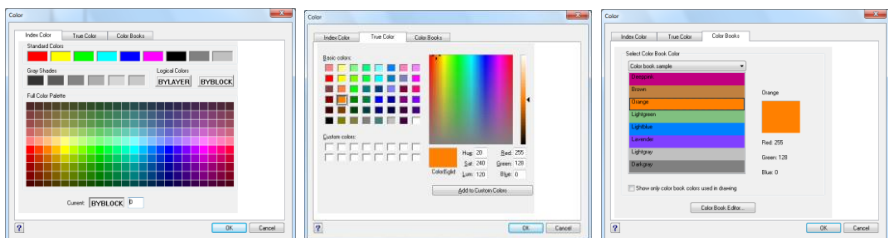

Fig. 121 – Selection of layer colour – tabs: Index Color, True Color, Color Books
-  **Colour change field** – in here the colour of the layer of the selected element can be modified; in a new drawing, entities are created in the colour **BYLAYER**, which adopts the colour of the current layer. Initially, layer 0 is both the only layer and the current layer. Its default color is white, so your entities appear as white. There are index colors, which contain two additional colour properties that are often referred to as **colours**, **true colours**, and **colour book colours** (Fig. 121). The two additional color properties are **BYLAYER** and **BYBLOCK**. These colour properties cause an entity to adopt the color either of the